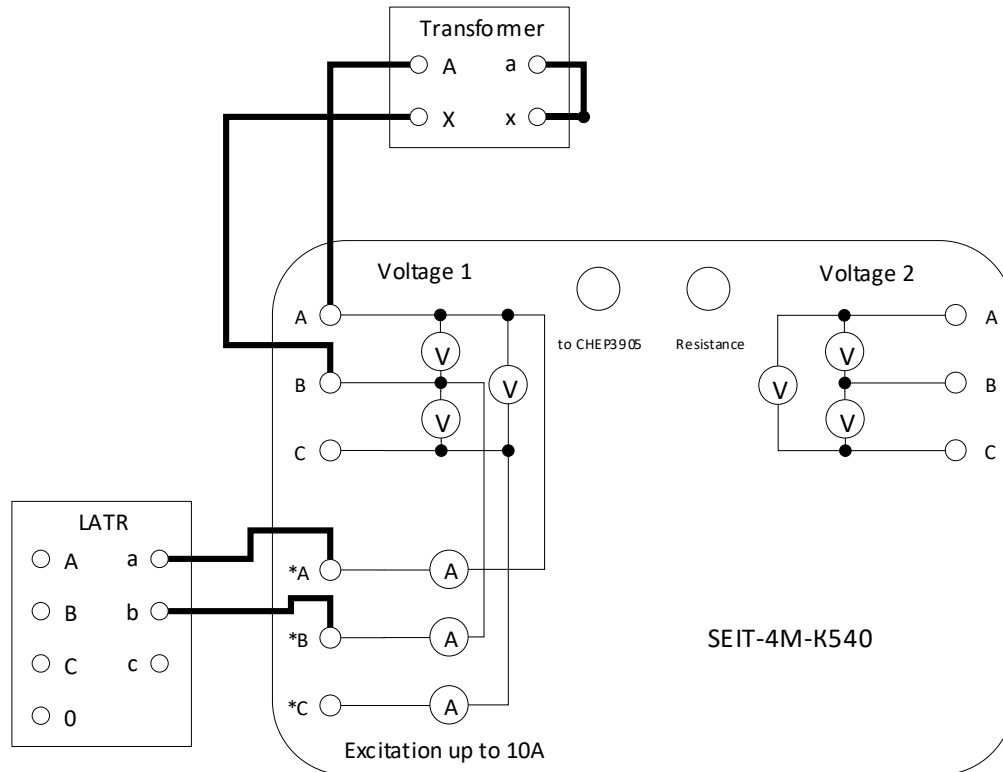

Fig. 20. Connection Circuit for a Single-Phase Short Circuit Test
5.4.3. To perform a test with a single-phase transformer, assemble the circuit shown in Fig.20.